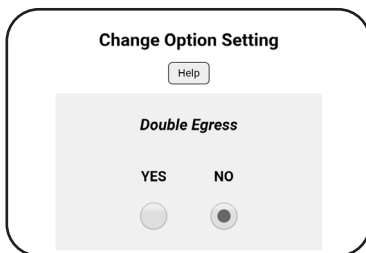

Figure 44
- Double Egress = **Yes** or **No** (Figure 44)